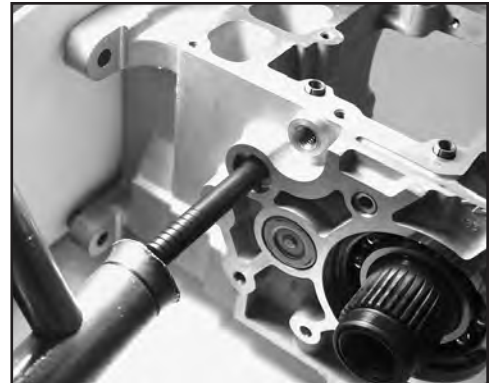
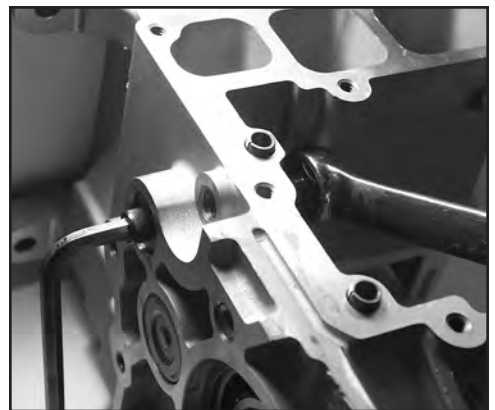

Figure 1
Figure 2
2. To remove existing sleeve in transmission case, insert Remover Pilot (1) No. 1664-1 into sleeve I.D. as shown in **Figure 1**. Drive sleeve towards inside of case using a 30 oz. brass hammer.
4. To install new sleeve, lube the O.D. and I.D. of sleeve and Installer Pilot Tool (2) No. 1664-2. Then lube thrust washers (4), bearing (3) and Allen screw (5).
6. Install lubed sleeve (No. 33114-79 or 34979-00) onto No. 1664-2 Installer Pilot (2) and from inside of case thread onto Allen bolt as shown in **Figure 2**. Tighten by hand to align sleeve to hole, then using Allen wrench and box wrench as shown tighten Allen until bushing is as deep as it will go. Bushing should be flush with counterbored hole.